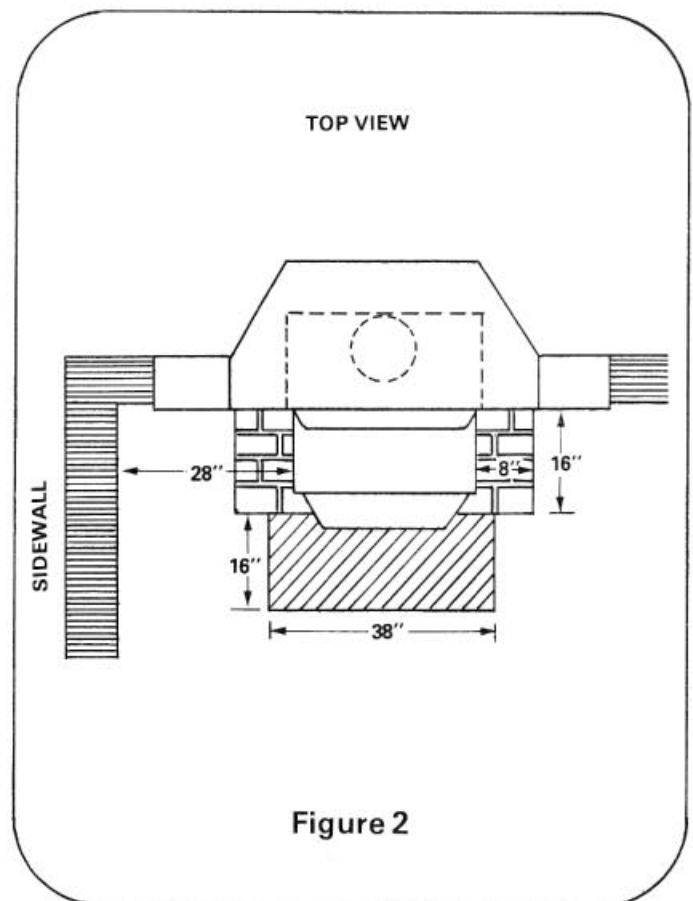

Figure 2
24. Install floor protector in front of fireplace hearth. (See Figure 2.)
minimum thickness asbestos millboard or equivalent is required in front of the fireplace hearth and measure 16" deep by 38" wide, centered in front of the door opening. (See Figure 2.)